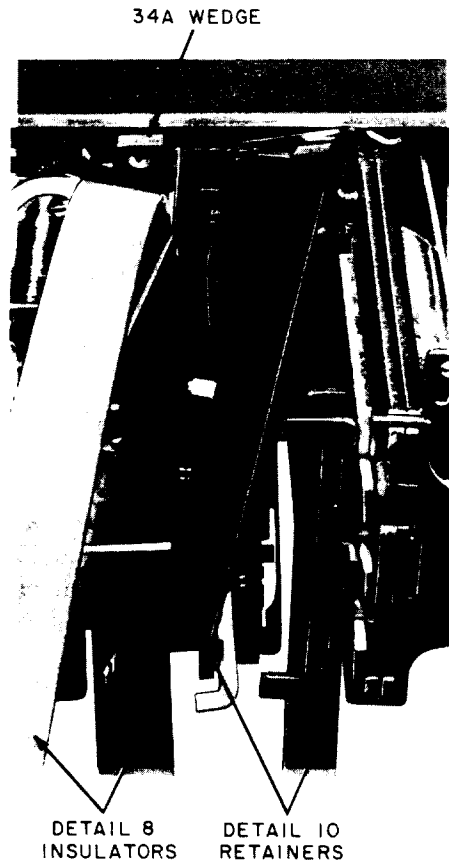

Fig. 23—Detail 10 Retainers in Place
4.58 Apply the B long-nose pliers to the clamping springs as close to the relay mounting bracket as possible and squeeze ends of clamping spring to the flange of the mounting plate. Then insert detail 10 retainer between clamp spring end and mounting bracket as shown in Fig. 23. Use one retainer for retaining the top clamping spring and a second detail 10 retainer for retaining the bottom clamping spring. This provides accessibility for new replacement coil, core, and armature assembly.
- 4.81** Apply the B long-nose pliers to the clamping springs as close to the relay mounting bracket as possible, and squeeze ends of clamping spring to the flange of the mounting plate. Then insert detail 10 retainer between clamp spring and mounting bracket. (See Fig. 23). Use one retainer for retaining the top clamping spring and a second retainer for retaining the bottom clamping spring. This provides accessibility for the new replacement coil, core, and armature assembly.
4.103 Apply the B long-nose pliers to the clamping springs as close to the relay mounting bracket as possible, and squeeze ends of clamping springs to the flange of the mounting plate. Then insert detail 10 retainer between clamp spring and mounting bracket. (See Fig. 23). Use one retainer for retaining the top clamping spring and a second retainer for retaining the bottom clamping spring. This provides accessibility for the new replacement coil, core, and armature assembly.